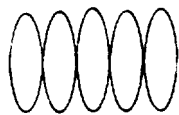

Figure 5-13. Zero beat pattern
- (6) Remove the digital voltmeter; remove from AN/GRM-114; reassemble metal shield to FM/AM Generator A1A24A3; reapply power to AN/GRM-114; set the FREQUENCY MHz thumbwheels to 120 051 0; set the RF LEVEL/BFO INJECTION control to  $-100$  dB; set the HI LVL/NORM switch to  $100 \mu\text{V}$ ; and connect the coaxial cable between the TRANS/RCVR jack and the spectrum analyzer input.
- (7) Check that the spectrum analyzer displays a 120.051 MHz signal at  $60 \pm 1$  dB. If the spectrum analyzer display is not correct, adjust A1A24A3-R20 for a display of 120.051 MHz at  $60 \pm 1$  dB.
- (8) Set the GEN/RCVR switch to RCVR; set the RF LEVEL/BFO INJECTION control to 1; set the SWEEP switch to 10 mS; and connect the coaxial cable between the ANT INPUT jack and the rf signal generator output jack.
- (9) Adjust the rf signal generator for a 120.05 MHz output with an output level of 100 microvolts.
- (10) Check that the oscilloscope display is as shown in figure 5-13, and the FREQ. ERROR indicates full scale deflection to the left. If the oscilloscope display and the FREQ. ERROR indication are not correct, adjust A1A24A3R21 for the proper indications.